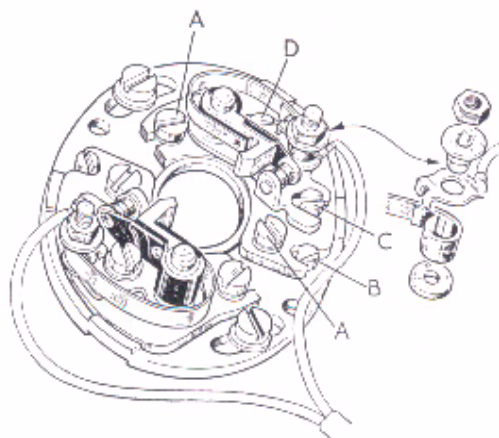

FIG. 22
The contact breaker assembly is shown in Figure 22. A separate contact set on a moveable mounting plate is used for each cylinder, thus making it possible to accurately set the ignition timing on either cylinder.
1. Release the contact breaker plate screw (D) Figure 22.
2. Manipulate the eccentric adjusting screw (C) until the contact breaker gap is correct.
3. Tighten the plate screw (D).